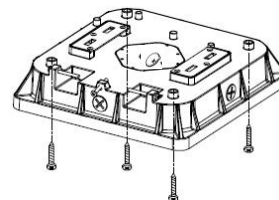

Figure 16
4. Attach the luminaire housing to the mounting surface using appropriate fasteners (see Figure 16).